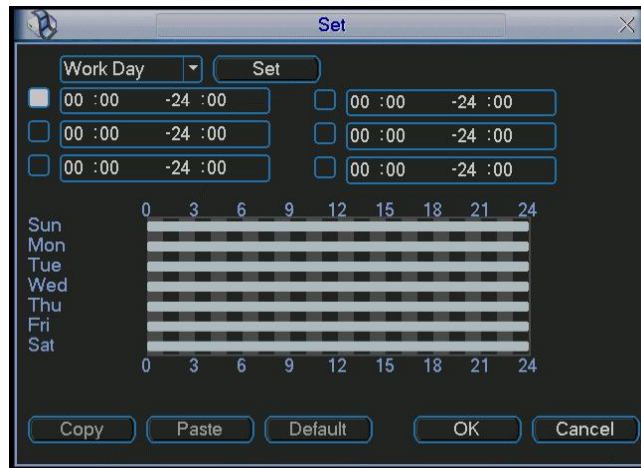
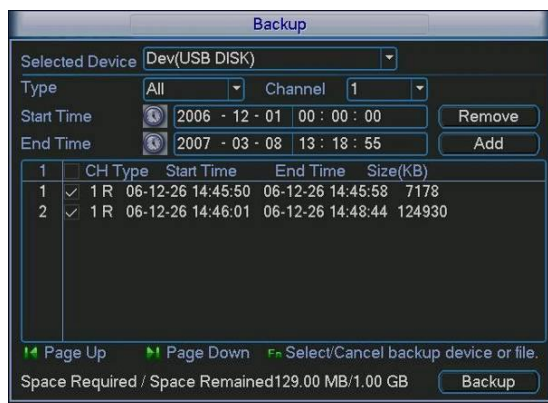
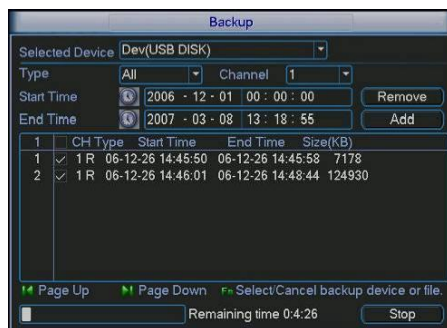

Figure 4-23
Figure 4-26
Figure 4-27
- Period: Click set button and you will see an interface as shown in Figure 4-23. Here you can set a business day or non-business day. In Figure 4-26, click set button to display an interface as shown in Figure 4-27. Here you can set a business day or non-business day.
Click add button, system begins search. All matched files are listed below. System automatically calculates the capacity needed and remaining. See Figure 4-26.
Click backup button, system begins burning. At the same time, the backup button becomes a stop button. You can view the remaining time and progress bar at the bottom left. See Figure 4-27.